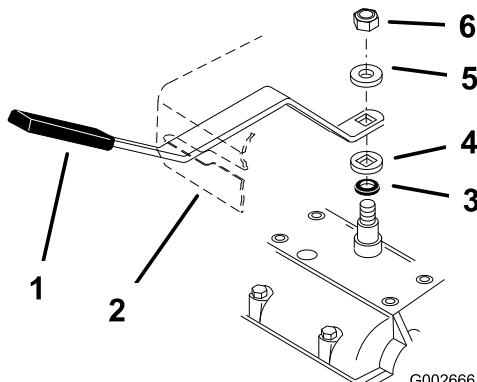

Figure 6
1. Shift lever to second gear and check alignment of lever in slot of shift lever plate. The clearance between top and bottom of the shift lever should be equal (Figure 6).
2. If clearance is not correct, remove lever and bend it slightly to adjust (Figure 6).
3. Shift lever to neutral and check alignment of lever in slot of shift lever plate. The clearance on the sides of shift lever should be equal (Figure 6).